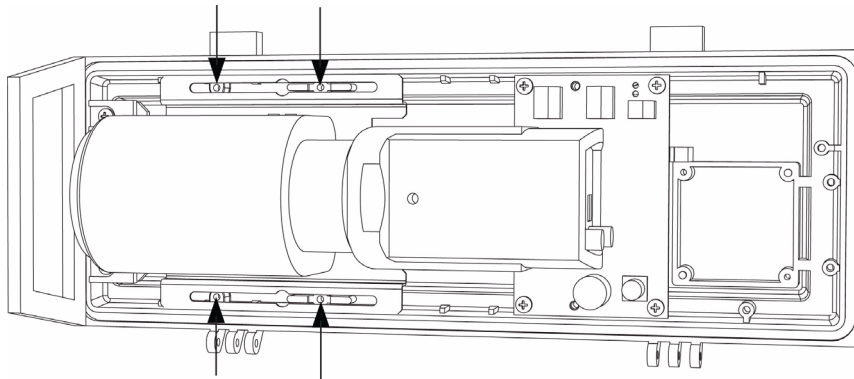

Figure 3.3 Attach Camera to Housing
4. Reposition the camera/lens mounting tray sliding it forward so the lens is as close to the front window as possible. Insert and tighten the four M4 x 10 screws and the four washers (contained in the Cable and Screws accessory bag) as shown in *Figure 3.3*.